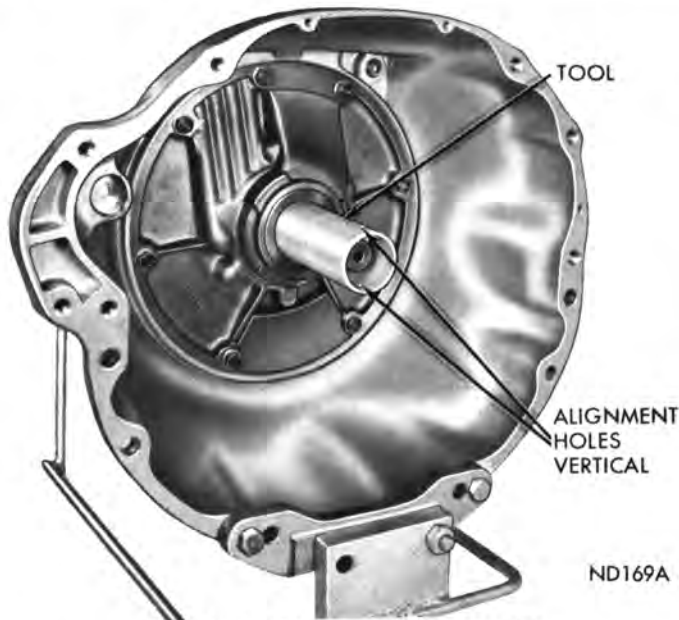

Fig. 103—Aligning Pump Rotors
(1) Rotate pump rotors with Tool C-3756 (A-904) or Tool C-3881 (A-727) until the two small holes in handle are vertical (Fig. 103).
(2) Carefully slide converter assembly over input shaft and reaction shaft. Make sure converter impeller shaft slots are also vertical and fully engage pump inner rotor lugs.